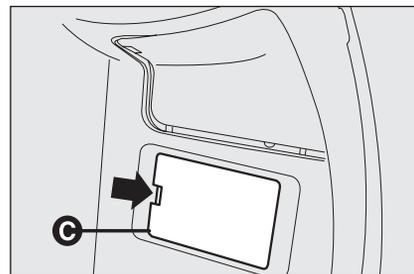

fig. 43
- open the fuse box lid **C-fig. 43** working in the point shown by the arrow.